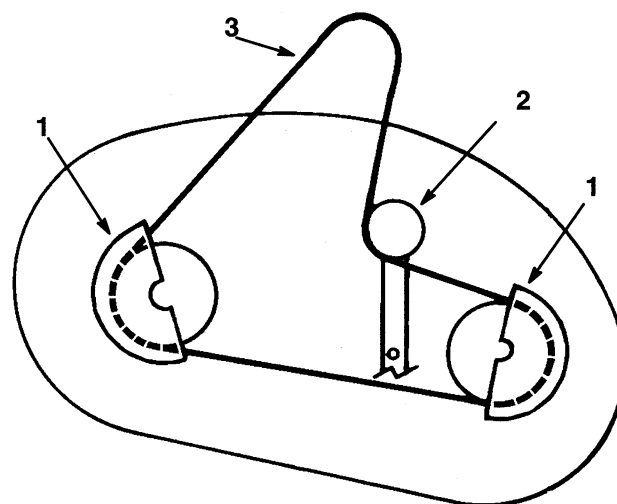

Figure 26
2. Remove the pulley cover mounting screws and pulley covers from both blade pulleys (Fig. 26).
3. Remove the belt from the pulleys (Fig. 26).
2. Install the left and right pulley covers with the mounting screws (Fig. 26).